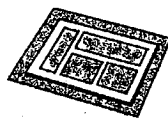

Figure 2
3. Put the face frame (A) face down on a flat soft working surface (Figure 2).